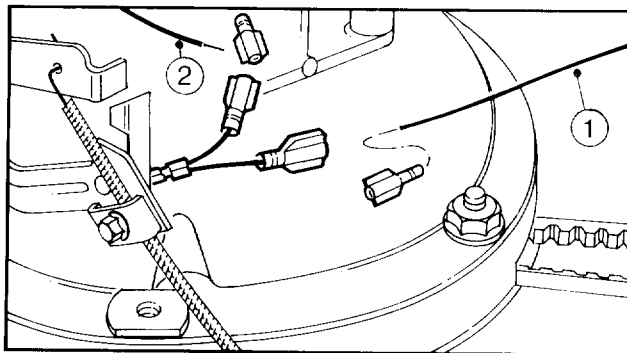

Figure 4
3. Cut interlock wire to length required to reach one of the male terminals of wiring assembly. Make sure interlock wire does not interfere with drive system operation, (Fig. 4).
4. Strip off approximately 1/4" of insulation from interlock wire and firmly secure female terminal to wire. Connect interlock wire to wiring assembly, (Fig. 4).
5. Cut female terminal off ignition coil wire (Fig. 4). Strip off approximately 1/4" of insulation and firmly secure new female terminal. Connect ignition coil wire to wiring assembly.